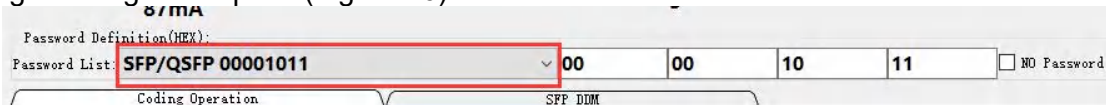

Figure 11
3.1.1 Select the configuration file “SFP/QSFP 00001011” corresponding to the 10G LR code “00001011” (Figure 11).
3.2.1 Select the configuration file “SFP/QSFP 00001011” corresponding to the 10G LR code “00001011” (Figure 11).